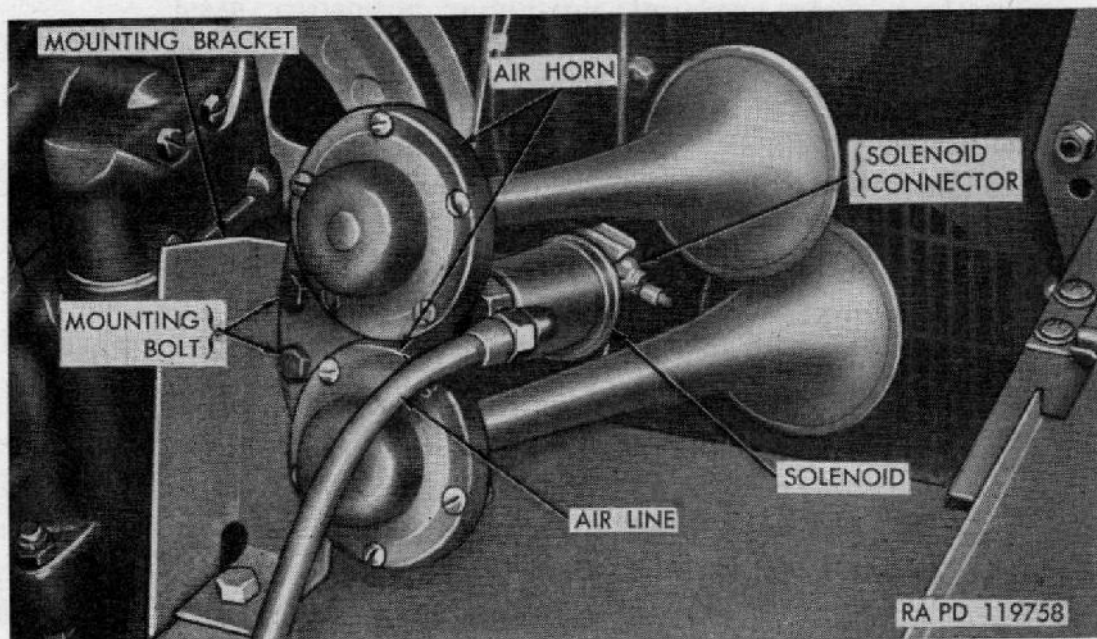

Figure 138. Air horn installation.
- (2) *M34, serial 94895 and up, M36 and M47.* These trucks are equipped with air horns mounted on inner section of right fender (fig. 138).